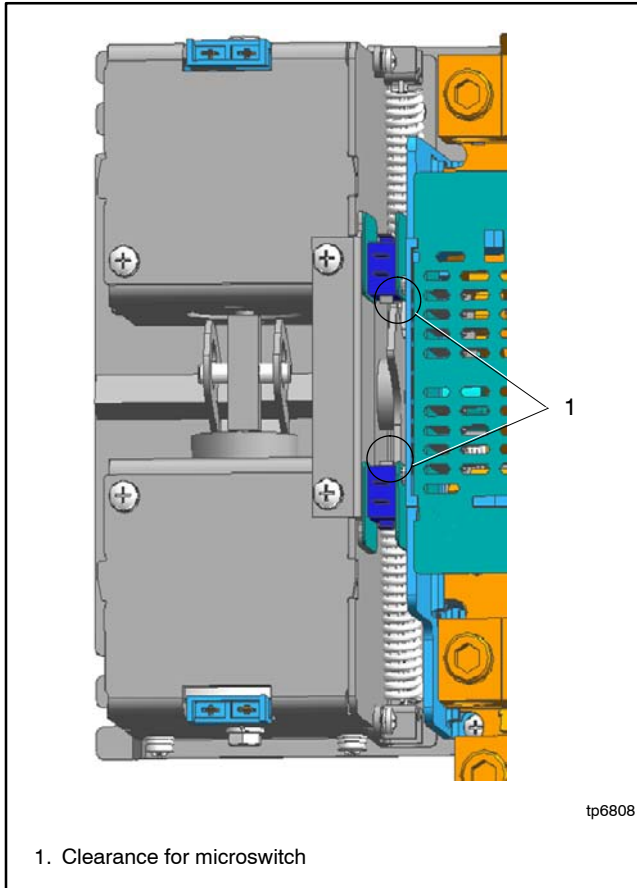

Figure 7-62 Microswitch Clearance
5. Make sure the degree of the clearance for both microswitches is the same. See Figure 7-62. For details, refer to step 3 in **Microswitch Assembly**.